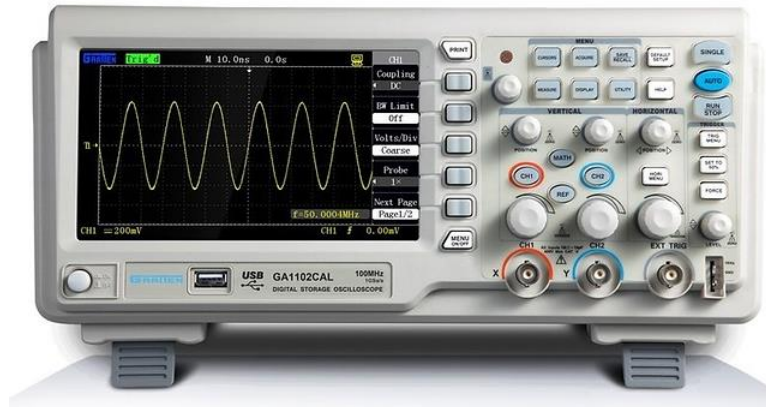

Figure 3. Electronic Signal Generator
8. Your front panel should now look like Figure 3.